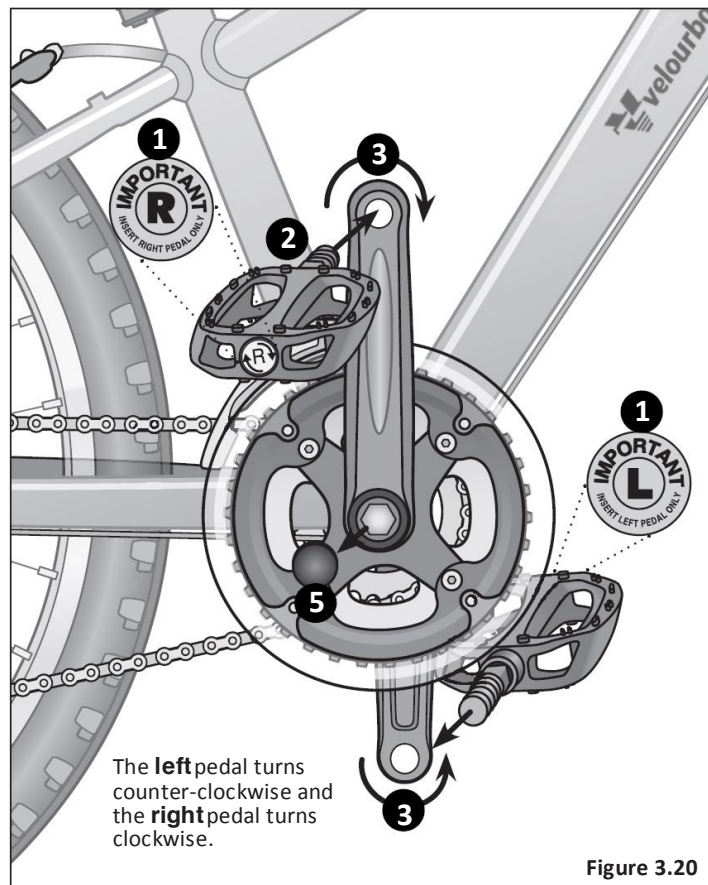

Figure 3.20
**1** Match the pedal marked R with the right-hand crank arm and match the pedal marked L with the left-hand crank arm. **Figure 3.20**